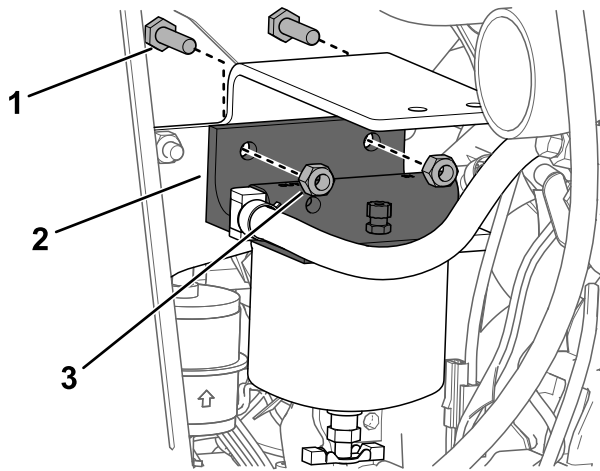
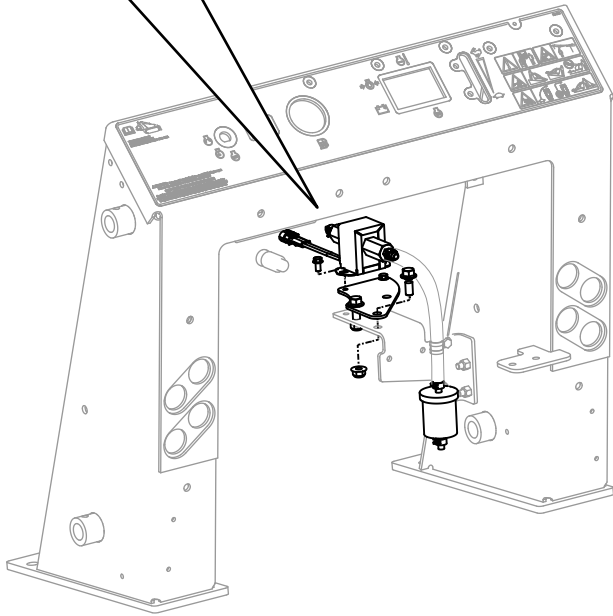

Figure 21
Figure 25
Use Figure 1 and Figure 21 through Figure 25 for this procedure.
8. Install the new fuel pump to the fuel-pump bracket with 2 self-tapping screws (1/4 x 1/2 inch) as shown in Figure 25.
17. Install the fuel-filter canister to the plate as shown in Figure 21.